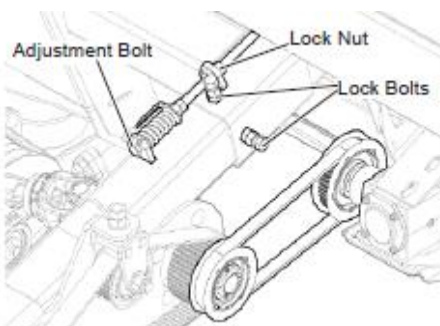

Figure 30
2. Loosen the jam nuts and spring assembly holding the right-hand draper belt. Figure 30
5. Retighten the lock bolts and lock nut when desired tension is reached. Figure 30